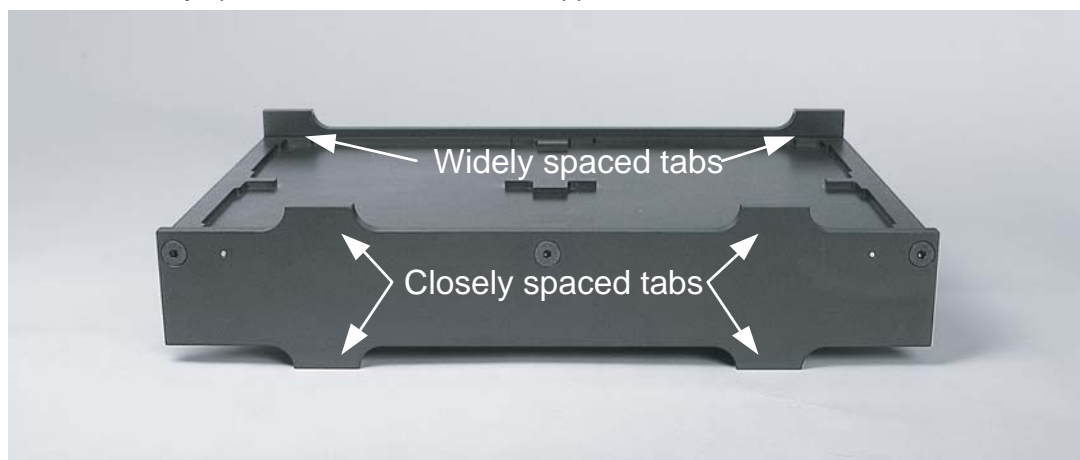

Figure 2-4. Microplate rack.
3. Orient the rack for the type of microplates that will be used. For standard microplates, the microplate rack is oriented shallow side up as shown in Figure 2-4, above. For deep-well plates and 96-tube racks, the microplate rack is oriented deep side up.